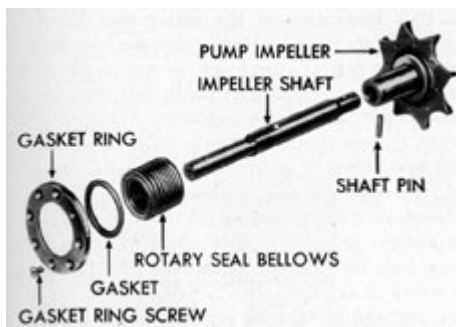

Figure 5-8. Impeller disassembled.
**5D5. Disassembly of the impeller assembly.** (See Figure 5-8.) The impeller assembly is disassembled as follows:
**5D6. Inspection and repair of impeller shaft.** (See Figure 5-8.) Inspect the impeller shaft for straightness. Inspect the shaft for security of mounting in the impeller. The impeller shaft should be securely mounted in the impeller, and the pin that secures the shaft to the impeller should be in place. A gap between the impeller shaft and the impeller is
**5D7. Inspection of the impeller blades.** (See Figure 5-8.) Inspect the impeller blades for straightness and depth. The blades should be straight. The depth of the impeller blades on a new, impeller is 0.189 inch. If the impeller blades are worn more than 0.002 inch below the depth of the blades of a new impeller, that is, the depth of blades is less than 0.187 inch, the impeller should be replaced, or the calibration of the system will be incorrect.
**5D8. Inspection of the rotary seal bellows.** (See Figure 5-8.) Visually inspect the face of the rotary seal bellows. If worn, pitted; or corroded, replace the bellows and gasket. Use KR monel bellows for replacement, if available. Use monel or bronze screws on the gasket ring. Do not use stainless steel screws on the gasket ring as the steel screws corrode badly when used with monel. Check the
**5D18. Assembling the shaft and impeller.** (See Figure 5-8.) Place the impeller shaft in the impeller hub. Align the hole in the shaft and the hole in the impeller hub, and install the pin that secures the shaft to the impeller hub. Be sure that the ends of the pin are flush with the impeller hub, and that the surfaces at the ends of the pin are smooth.
**5D19. Installing the rotary seal bellows.** (See Figure 5-8.) Place the rotary seal bellows on the